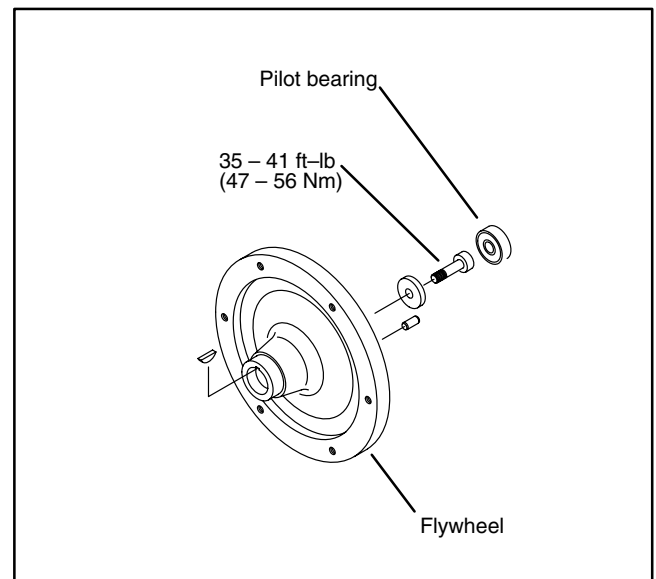

Figure 8
2. Check pilot bearing for smooth rolling and noise. Check (sealed) bearing for grease leakage. Replace bearing if necessary. Remove pilot bearing by backing out socket head capscrew that attaches flywheel to crankshaft (Fig. 8). Do not reuse bearing if removed.